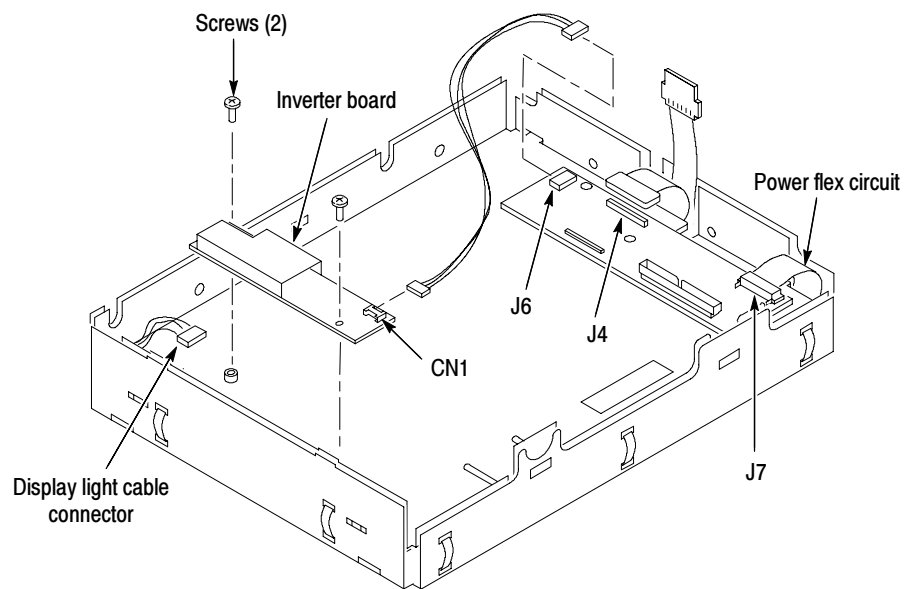

Figure 7: Install the Inverter circuit board
8. Connect (CN1) to (J6) connectors to the Inverter/Display Adapter circuit boards. See Figure 7.
9. Connect LCD light connector (S) to the Inverter circuit board.